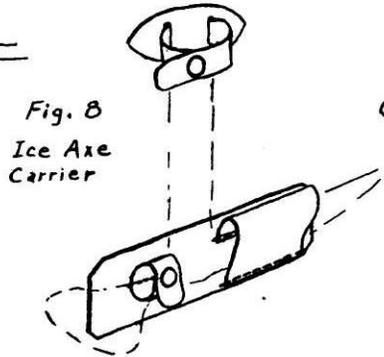

Fig. 8
For mountain climbers there is the recurring problem of what to do with the ice axe when it is not in the hands. It is sometimes stuck head down in the pack, but this can be difficult in the middle of a cliff. A little leather gadget made and attached to the pack allows the ice axe to be snapped in and out at will even in the most difficult spots. A flap is sewn to a rectangular base of leather to take the pick of the axe. A suitable distance behind it a small snap loop of leather is sewn to go around the neck of the adz to hold it in position. This assembly is sewn to the lowest possible position on the back of the pack. As high as possible on the pack a leather holder for an accessory strap is sewn. Through this is inserted a short snap or buckle strap to go around the shaft of the axe. A similar type of carrier can be invented to hold tripods, fishing poles, or other ungainly but frequently needed items. (See Fig. 8, Plate IV.)
3. The lower shoulder straps should be attached as far to the rear of the board as possible so as to tend to throw the weight of the load forward onto the back. The upper shoulder straps should be as broad as possible to distribute the load over as wide an area as possible. (See Fig. 8, Plate V.)
Since the pack board is designed to carry maximum weight the best and firmest leather or web should be used for the upper shoulder straps—at least 2½" wide. A wide padded strap similar to those used on the smaller packs but with more padded area can be used. It is possible to fasten the straps directly to the frame but it is more comfortable if a leather yoke, cut to fit close to the neck and over the shoulders, is used to locate the straps definitely on the body as illustrated by Fig. 8, Plate V. If the straps are attached separately to the frame they should be held close to one another where they leave the frame so they pass close on either side of the neck. If they bear too far out on the shoulders the leverage exerted will be very tiring on neck and shoulder muscles.